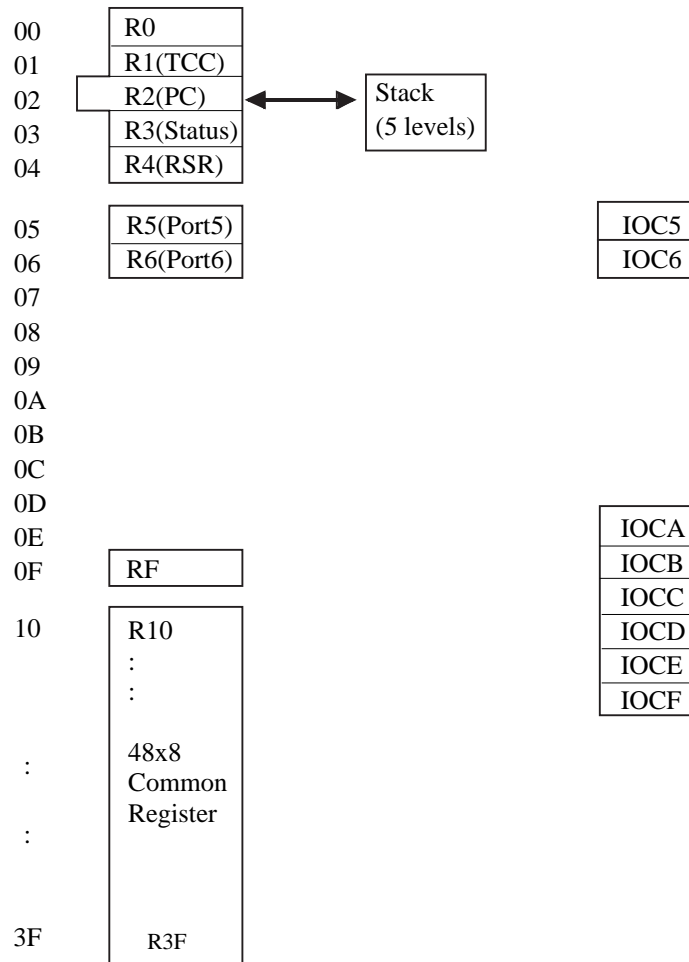

Fig. 4 Data memory configuration
- Bit 0 (C) Carry flag
- Bit 1 (DC) Auxiliary carry flag
- Bit 2 (Z) Zero flag. Set to "1" if the result of an arithmetic or logic operation is zero.
- Bit 3 (P) Power-down bit. Set to 1 during power-on or by a "WDTC" command and reset to 0 by a "SLEP" command.
- Bit 4 (T) Time-out bit. Set to 1 by the "SLEP" and "WDTC" commands, or during power-up and reset to 0 by WDT time-out.
- See the configuration of the data memory in Figure 4.